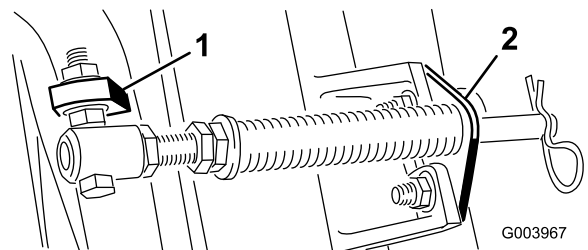
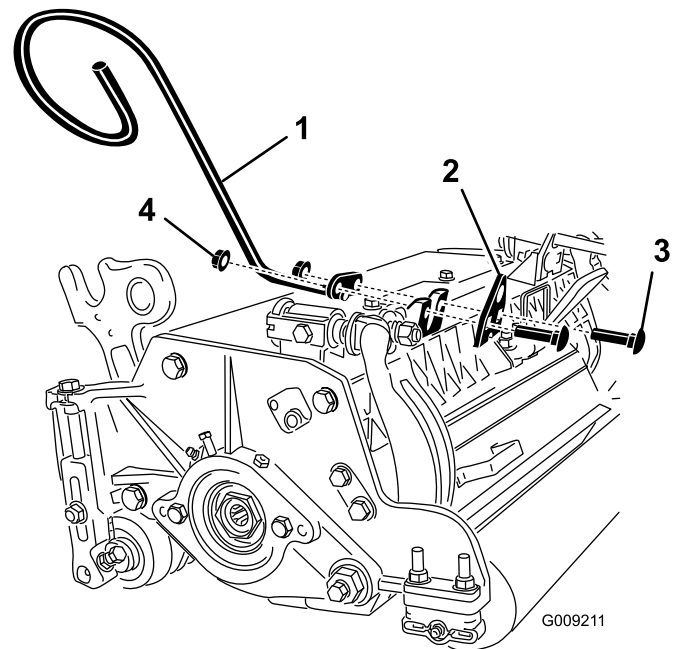

Figure 6
Figure 8
C. Mount the spring tube bolt to the opposite tab on the carrier frame and secure with the flange nut. The bolt head is to be positioned to the outer side of the tab as shown in Figure 6.
D. Mount the rod bracket to the cutting unit tabs with the carriage bolts and nuts (Figure 6). Also, on the #4 (left front) cutting unit, mount the left hand hose guide to the front of the cutting unit tabs when reinstalling the rod bracket (Figure 8).